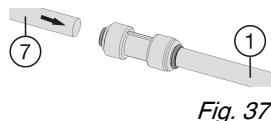

Fig. 37
- ▶ Connect the supplied extension hoses Fig. 37 (1) to the appliance hoses Fig. 37 (7): Slide the appliance hoses into the connectors as far as they will go (approx. 25/32 " (20 mm)).